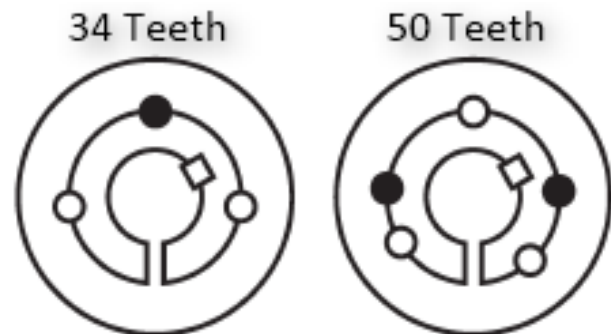

Figure 19
3. Insert the screws into the jack screw holes as indicated by a black dot as shown by Figure 19.
4. Lightly oil the screws and thread them into the half-threaded holes indicated by a white dot on Figure 19.